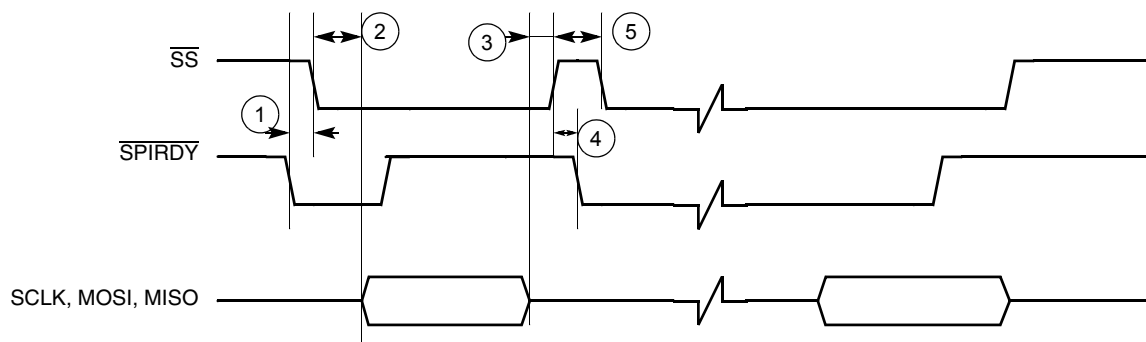
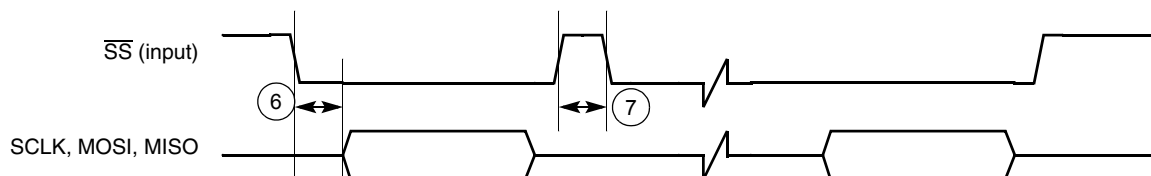

Figure 34. Master SPI Timing Diagram Using $\overline{\text{SPI_RDY}}$ Edge Trigger
Figure 38. Slave SPI Timing Diagram FIFO Advanced by $\overline{\text{SS}}$ Rising Edge
To use the internal transmit (TX) and receive (RX) data FIFOs when the SPI module is configured as a master, two control signals are used for data transfer rate control: the $\overline{SS}$ signal (output) and the $\overline{SPI_RDY}$ signal (input). The SPI1 Sample Period Control Register (PERIODREG1) can also be programmed to a fixed data transfer rate. When the SPI module is configured as a slave, the user can configure the SPI1 Control Register (CONTROLREG1) to match the external SPI master's timing. In this configuration, $\overline{SS}$ becomes an input signal, and is used to latch data into or load data out to the internal data shift registers, as well as to increment the data FIFO. Figure 34 through Figure 38 show the timing relationship of the master SPI using different triggering mechanisms.
Table 18. Timing Parameter Table for Figure 34 through Figure 38